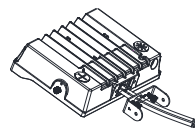

figure 6.1
Step 2: Run the glue wire through the hole in the mounting bracket and secure the fixture and bracket with an inner hexagon screw (Watch out not to scratch the glue wire) (Figure 6.1), Tighten the other bracket with screws. (figure 6.2)